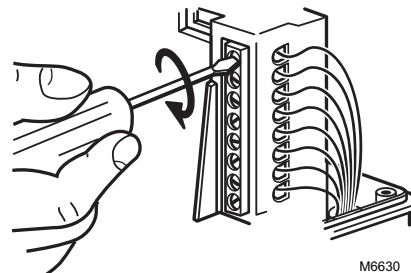

Fig. 6. Connecting Power and Control Wiring.
All wiring must comply with local electrical codes, ordinances and regulations. Voltage and frequency of the transformer used with the actuator must correspond with the power supply and actuator characteristics. Refer to Figures 6 through 13 for connection information and typical wiring hookups.
1. Feed power and control wires through the conduit connector located on the bottom of the actuator case (See Fig. 6).